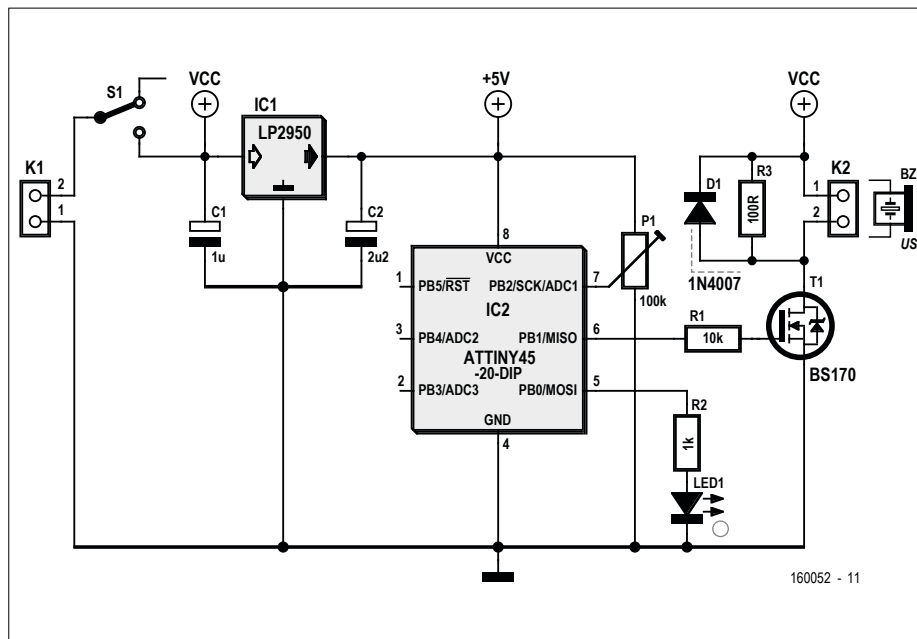

Figure 1. The schematic of the ultrasonic sound generator shows a very modest design; the circuit can be built by anyone.
**Figure 1** shows the modest schematic of our ultrasonic sound generator. The heart of the circuit is formed by — and how could it be otherwise — a microcontroller, in this case a small one: the ATtiny25-20. But let's start from the beginning: the power supply. The input voltage, in the range from 9 to 12 VDC (derived from a 9-V battery, a line power adapter or a car battery), enters through the two-way header K1 and continues via on/off switch SW1 to a well-known, low-drop voltage regulator, the LP2950 in its 5-V variant. Capacitors C1 and C2 are part of the standard configuration and ensure the